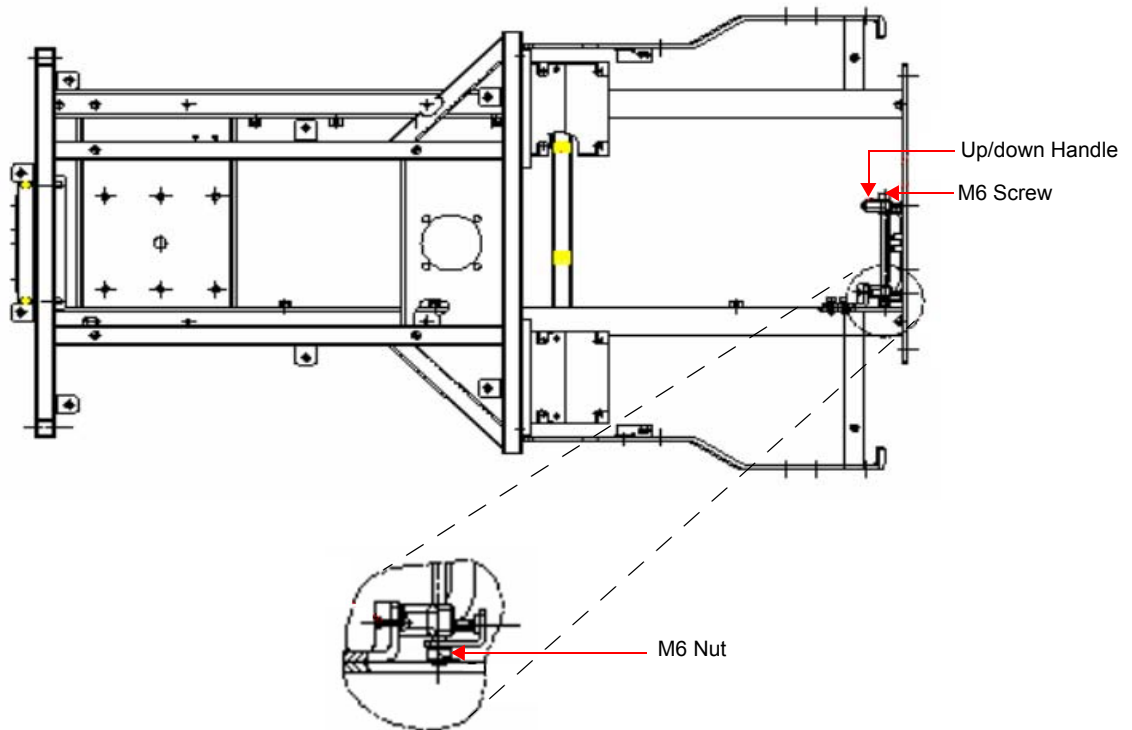

Figure 8-90 Up/Down Handle Securing Mechanism
- 2) Loosen and remove the nut on the M6 screw (see Figure 8-90 below) that secures the up/down handle in position.